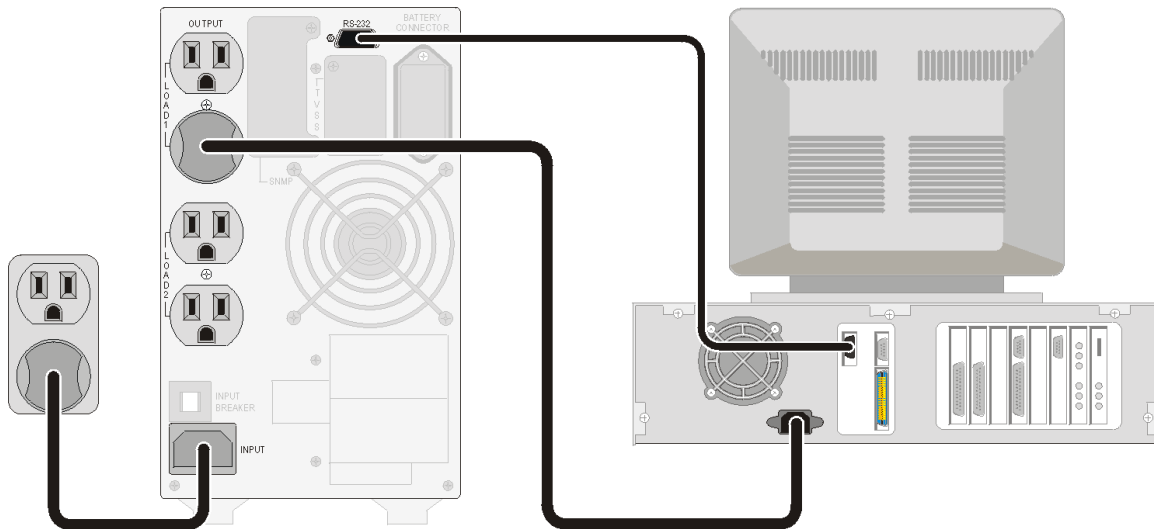

Figure 4 Connecting the FT1-SHUTTLE-SU to the Utility Supply and to the Load
Connect the interface signal cable between the RS-232/dry contact port, on the rear panel of LPS and COM1 or COM2 of your computer. See Figure 4.
2. Connect the power cord(s) of your equipment into the output receptacles on the rear panel of the LPS, as shown in Figure 4.
Use the supplied power cord, and plug it into the input socket and then connect it to an appropriately rated wall receptacle (see Figure 4).